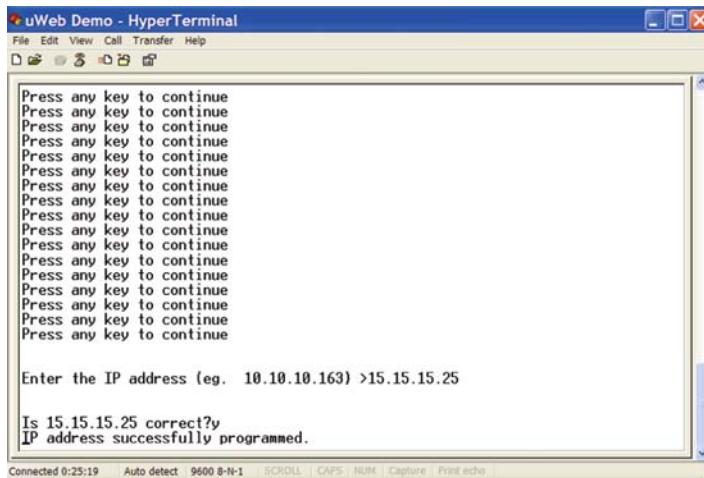

Fig. 8.22 Serial Port Configuration of uWeb
11. Press any key and you will be prompted to enter and confirm an IP address. When finished you should see a screen similar to the one in Figure 8.22. The flashing LED will now remain on and the RJ45 link light will also come on.